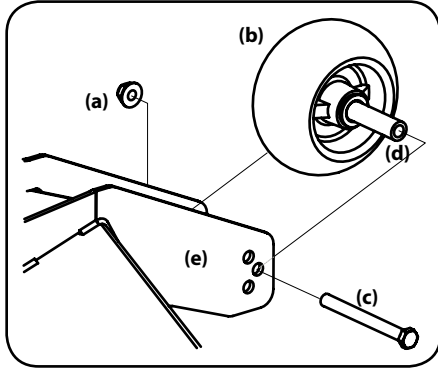

Figure 4-9
2. Remove the lock nut (a) securing one of the front gauge wheel (b) to the deck. Remove the front gauge wheel (b), hex screw (c) and spacer (d). See Figure 4-9.